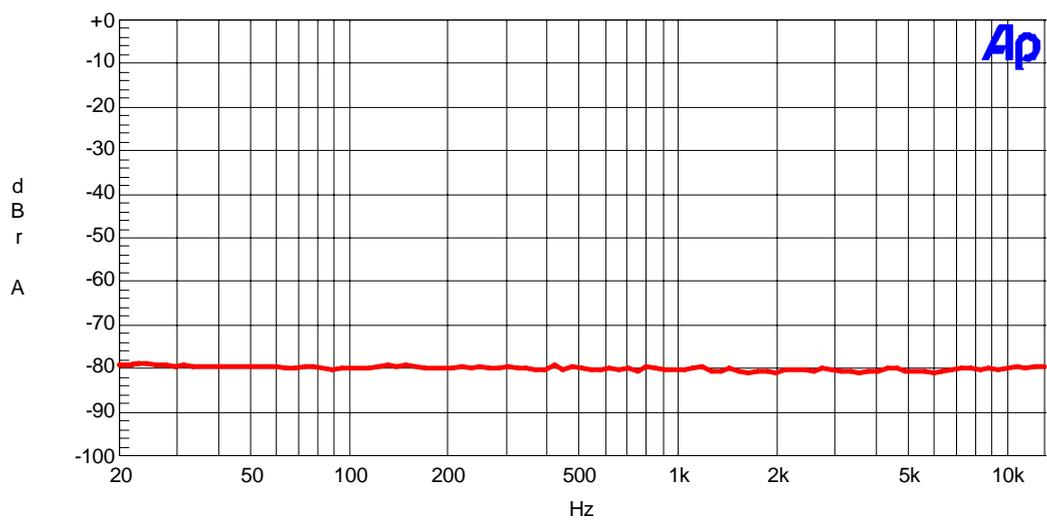

Figure. 17 Mono mode THD + N vs. Input Frequency (-15dB)
- Figure. 17 : THD+N vs. Input Frequency (-15dB)